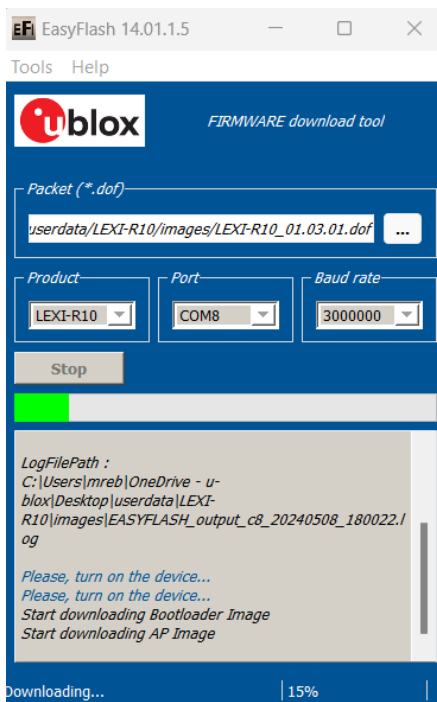
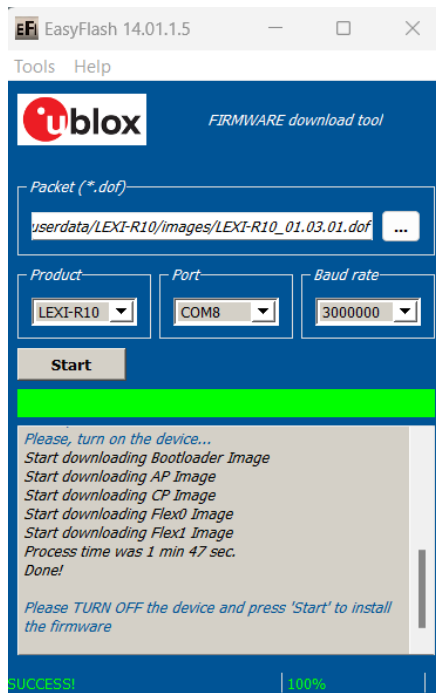

Figure 6: Flash process in progress
Figure 7: Flash process complete and successful
8. Flash will start, wait for flash to complete (see Figure 6 and Figure 7)